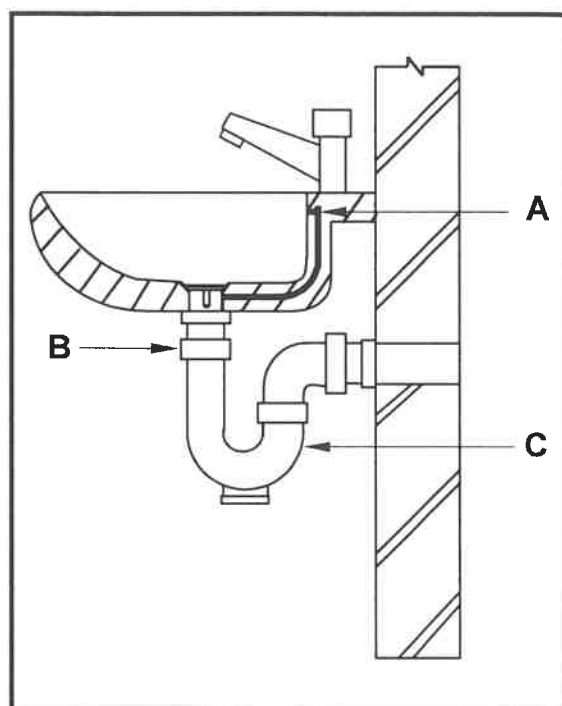

FIGURE 6.2
- (1)
6.2 FIGURE 6.2 below shows a sectional view of a sanitary installation.